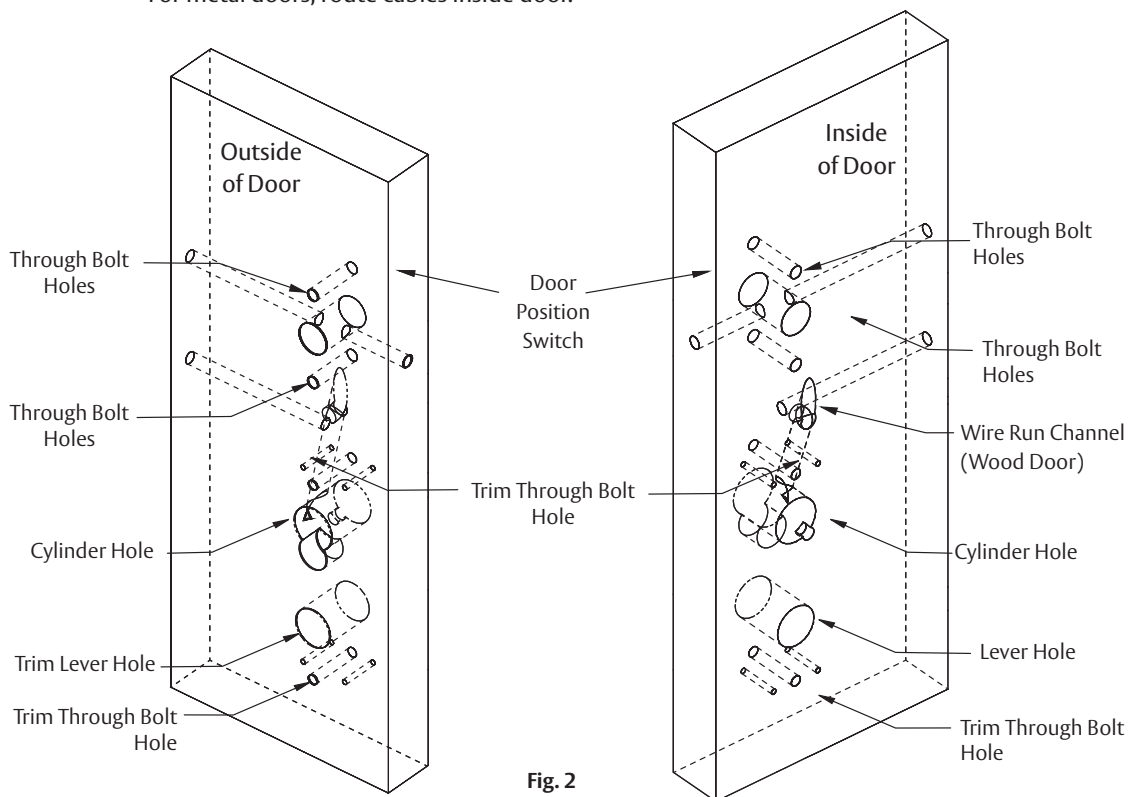

Fig. 2
e. Mark and drill door. (Fig. 2)